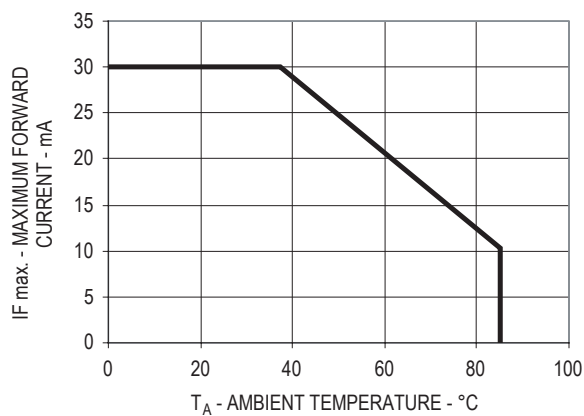

Figure 2. Forward current vs Ambient Temperature
1. Derate linearly as shown in Figure 2